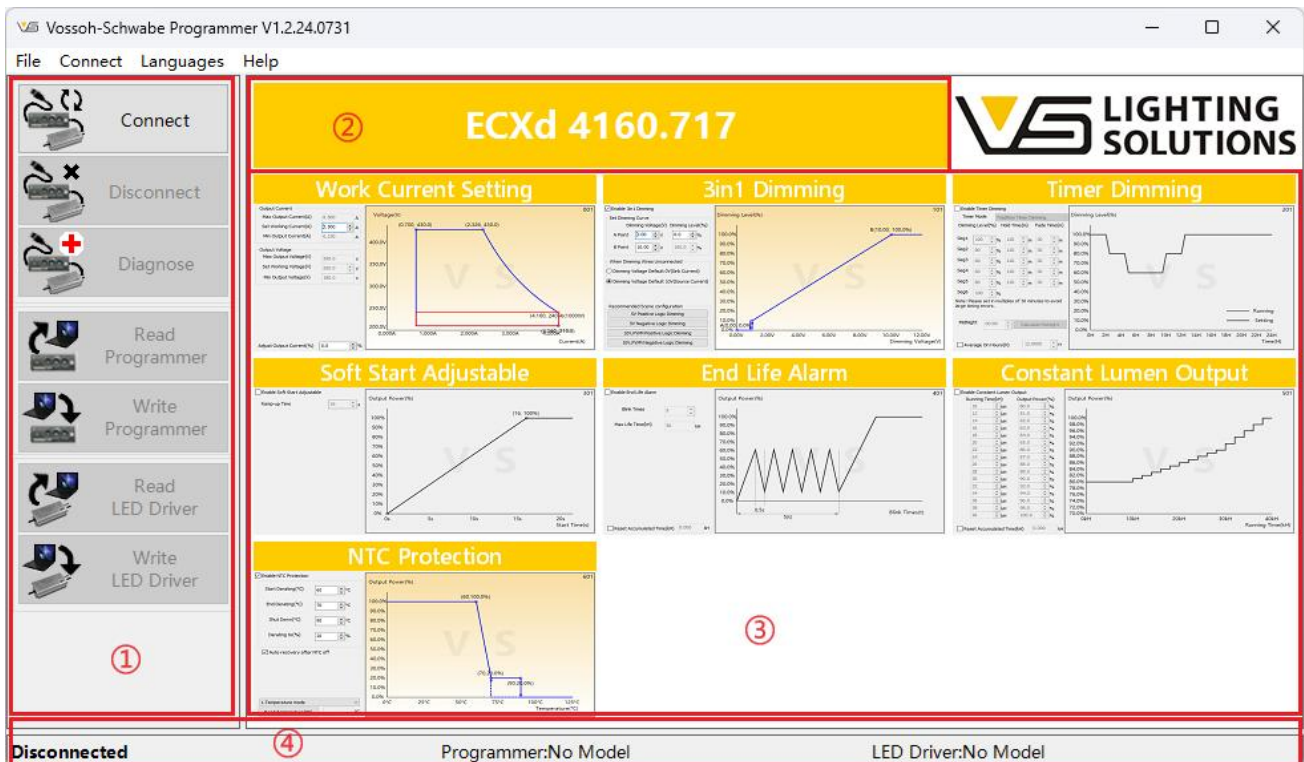

Figure 3
(1) Connect, Read LED Driver and Write LED Driver, as shown in Figure 3, at position ① in the block diagram.
If you want to restore the default parameters of the model, you can click "Load Default Values", as shown in Figure 3, click the position ② of the block diagram with the left mouse button, and select the corresponding model.
(2) Modify the data, such as "Work Current Setting", "3in1 Dimming", "Timer Dimming", etc., as shown in Figure 3, at position ③ in the block diagram.
(3) When "Writing LED Driver", please make sure that the selected model is the same as the connected LED driver model (as shown in Figure 3, position ④ in the block diagram), otherwise Programmer will refuse to program and report an error.
The model written in Programmer must be the same as the LED driver model to write successfully, otherwise Programmer will report an error. Check whether the models are the same, as shown in Figure 3, block diagram position ④).